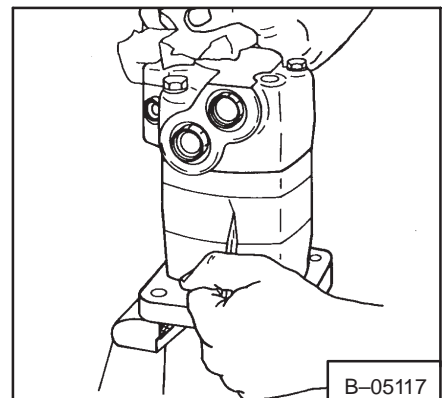

Fig. 3-34 Marking The Motor
1. Put the motor in a vise, holding it by the mounting flange with the shaft in the down position. Put a mark across the motor for correct assembly (Fig. 3-34).